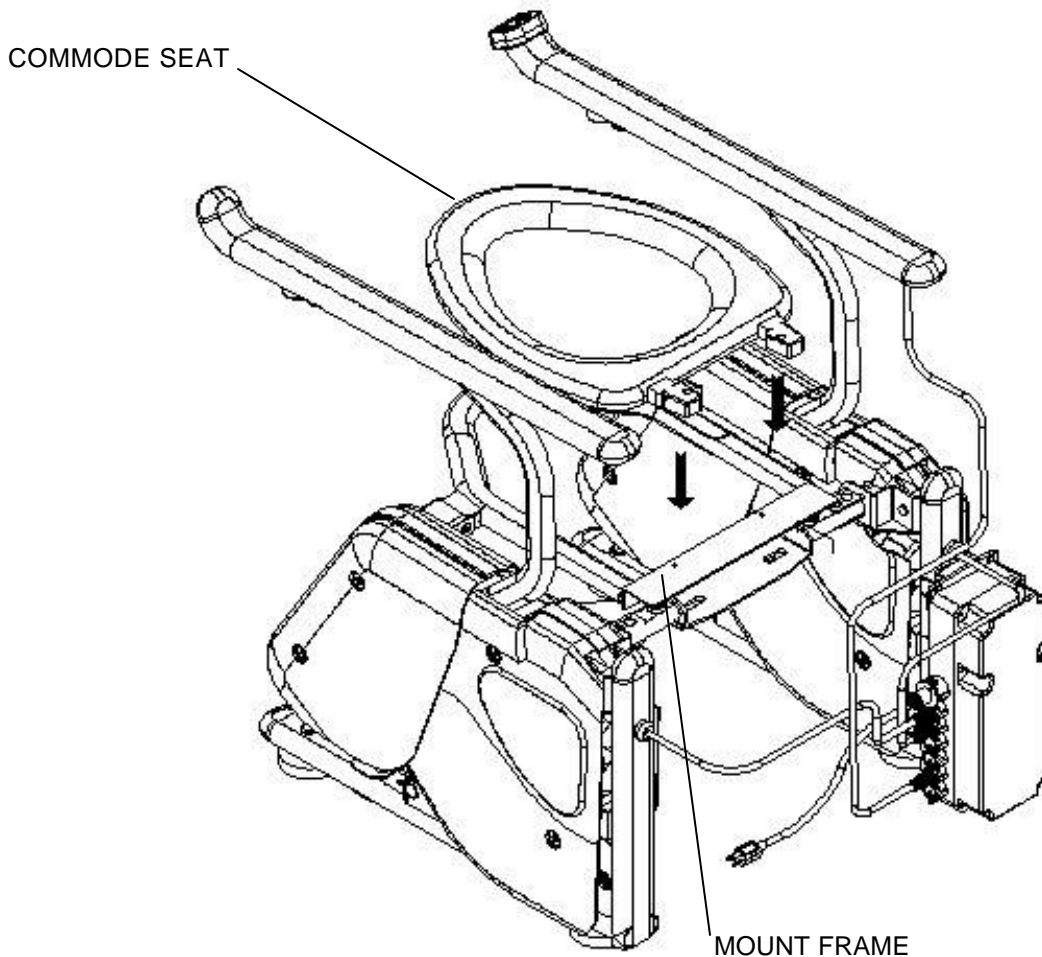
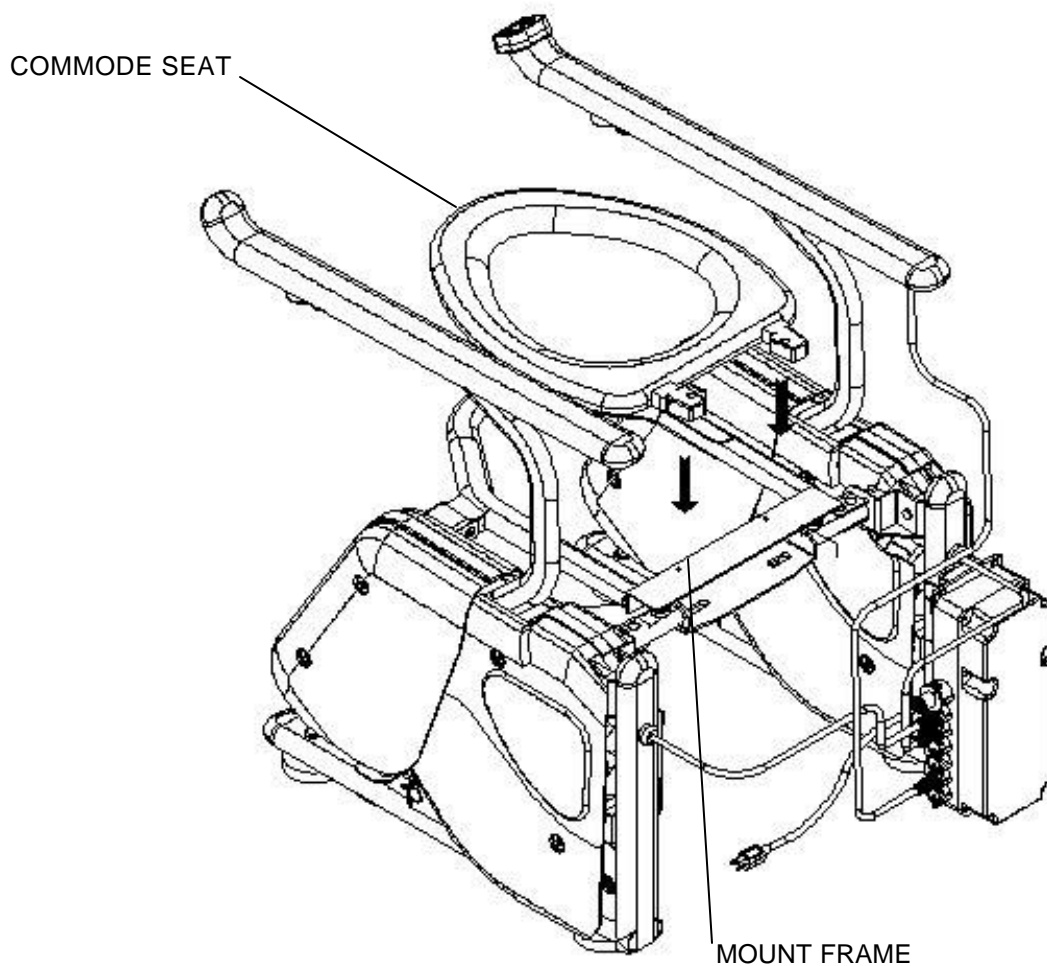

Figure A-8. Commode Seat Installation
Figure M-4. Commode Seat Installation
Step 12. If the original commode seat is to be used on the Cariana, omit this step. Place and hold the commode seat in its mounting position on the seat lift frame as shown in Figure A-8. Install the nylon mount bolts and the mount nuts, and tighten them to secure the commode seat hinge to the seat lift frame, see Figure M-4.
Step 6. If possible, use the new nylon mount bolts and nuts. Install the mount bolts and the mount nuts, and tighten them to secure the commode seat hinge to the seat lift frame. See Figure M-4 in the MAINTENANCE PRACTICES section of this manual.
- b. Remove the mount nuts and the mount bolts from the commode seat hinge and seat lift frame, see Figure M-4.
- c. Install the nylon mount bolts and the mount nuts, and tighten them to secure the commode seat hinge to the seat lift frame. See Figure M-4.